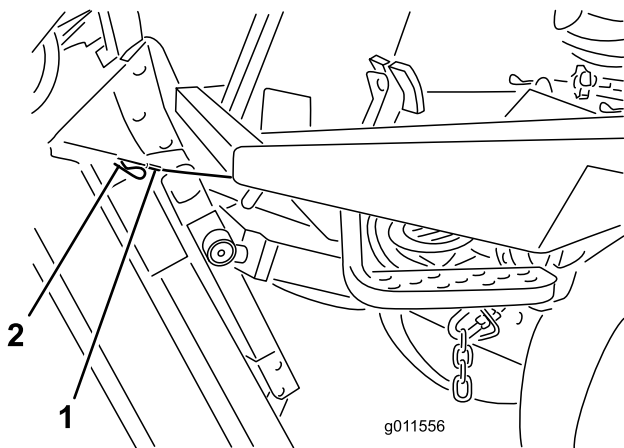

Figure 80
6. Hold the cutting unit upright, fit the cable end over the pin on the cutting unit lift arm and secure it with the hairpin cotter (Figure 80).